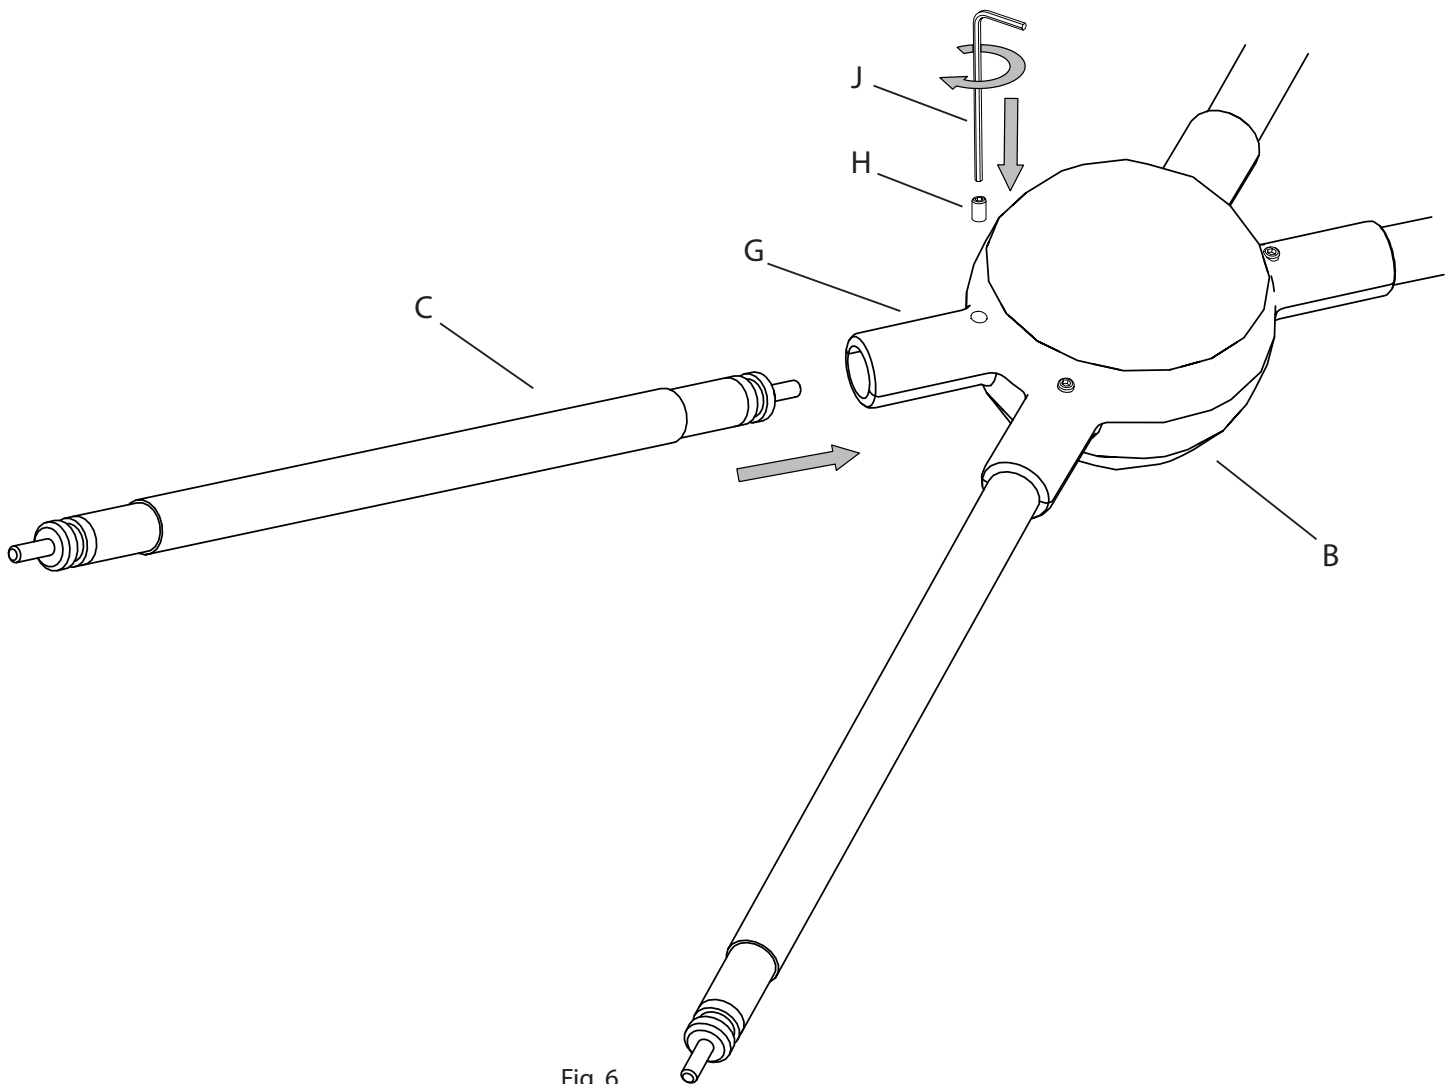

Fig. 6
9. Install each Arm (C) into an LED Hub (B) by fully inserting the Arm into a Neck (G) on the Hub (Fig. 6).
10. After each Arm (C) is connected to the Hub (B), install the M2 Set Screw (H) into the Neck (G) of the Hub, using the Small Hex Wrench (J) provided, and tighten until it comes in contact with the plastic cap on the Arm. **NOTE:** For aesthetic and ease of assembly purposes, make sure that the setscrew holes for all hubs are facing up when assembling each section.